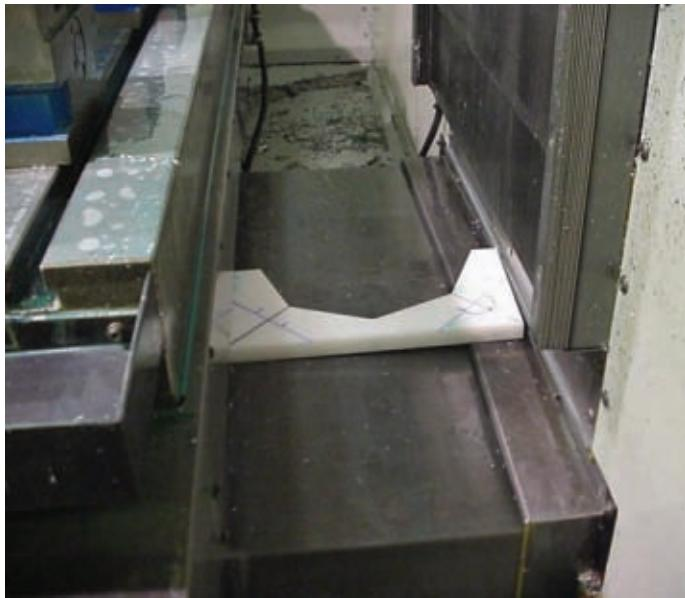

Figure 3-5 Large remnants can get jammed between the table and the back column of the machine. It's a condition that must be avoided.
8. Clamp large remnants in place or remove them so they can't fall behind the machine table. (see Fig. 3-5)